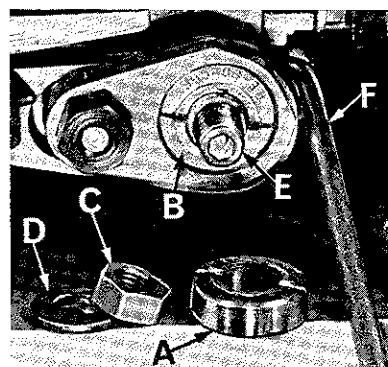

Fig. 12
Length of stitch is determined by the combination of feed eccentrics used. Outer (left) eccentric (A, Fig. 12) actuates main (rear) feed dog; while the inner (right) eccentric (B) actuates the differential (front) feed dog.